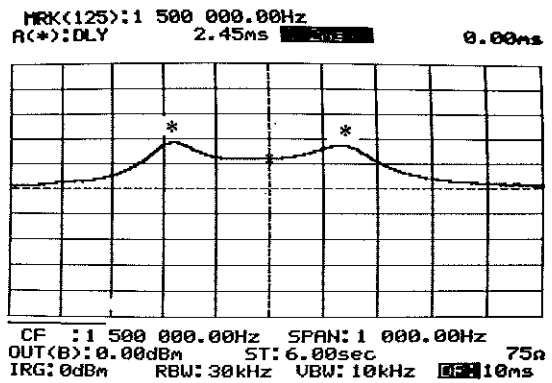
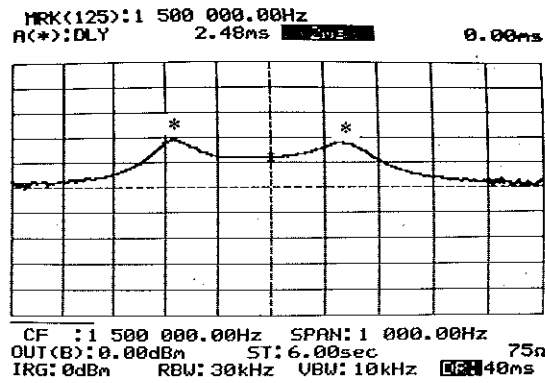

Fig. 3.17 DR Adjustment (C)
Fig. 3.18 DR Adjustment (D)
- 14 If DR changes at this time, the waveform on the CRT may vary from that shown in Fig. 3.17 to that in Fig. 3.18. To reduce measuring errors as much as possible, set the minimum DR where the peak values as shown in Figs. 3.18 (asterisked part) are largest and also stop to changing.